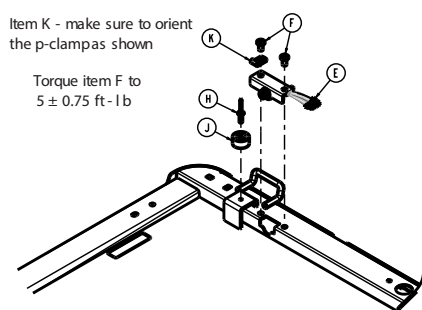

Figure 26 – Removing the cable
18. Using a T30 Torx driver, remove the two screws (F) that secure the pendant port/bracket assembly (E) to the Fowler weldment (Figure 26). Save the screws.